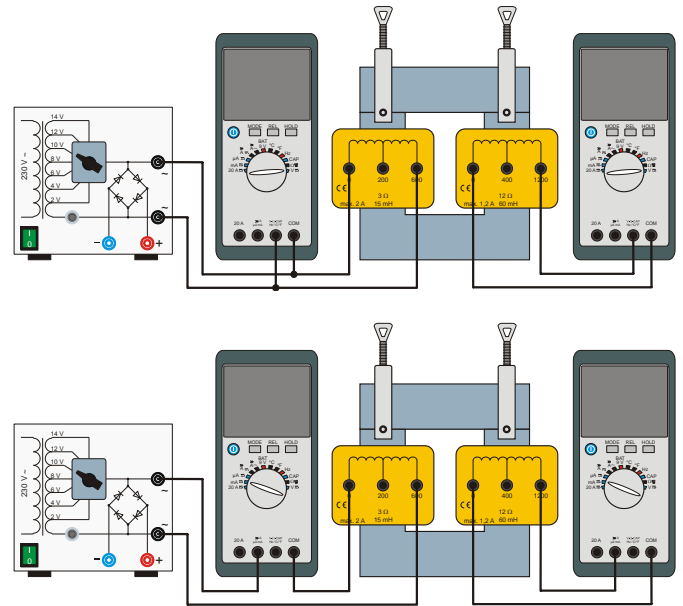

Fig. 4: Experiment set-up for transformer with no load (top) and transformer with load under short-circuit conditions (below).
- Set up the experiment as shown in Fig. 4. The multimeter on the primary side coil should be connected in parallel across the primary coil in order to act as a voltmeter. Select the measuring range “V” and mode “AC”.
- Now reconnect the primary-side multimeter such that it is in series with the primary coil and in a position to measure current. (Fig. 4 below). Select the measuring range “mA” and mode “AC”.